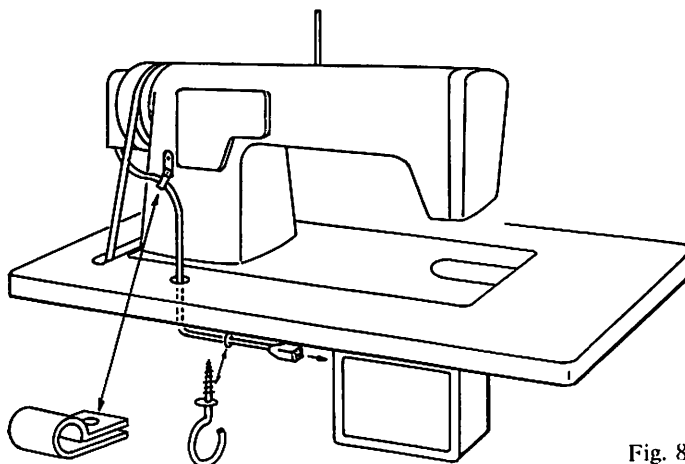

Fig. 8
A. How to connect the cord ⑤ coming out from the sensor
- * Plug-in the plug of cord ⑤ into the hole of the table.
- * As shown in Fig.8, hold the middle of this cord with the cord holder and cord support.